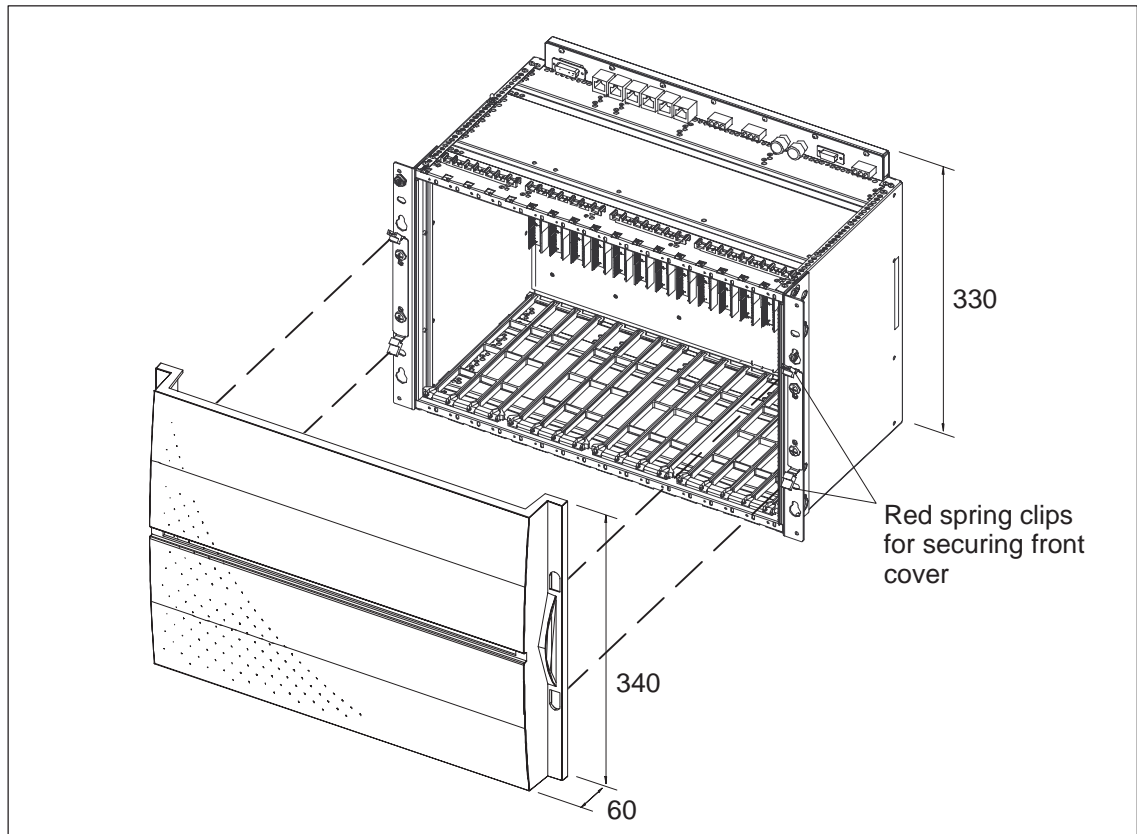

Figure 69 Attaching and detaching the front cover to the 17-slot subrack
1. Push in the top red spring clips at each side of the cover (see Figure 69).